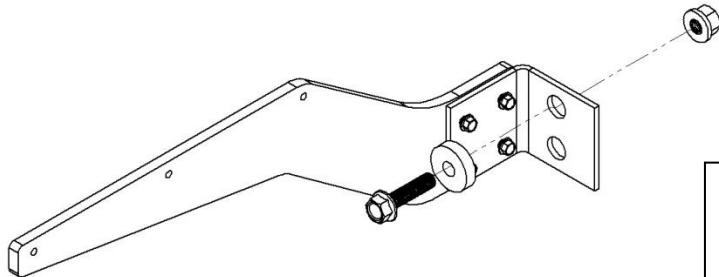

Figure 4
- b. Splash guards are available if additional coverage is wanted with a half fender set (Figure 4).